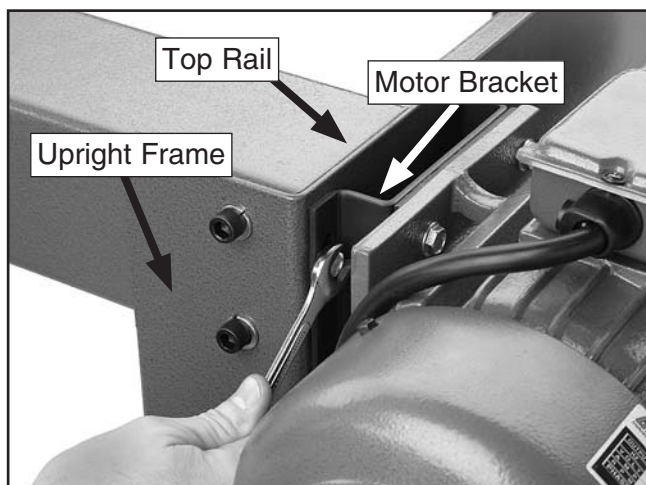

Figure 15. Motor bolt.
6. Insert the $\frac{5}{16}$ "-18 x $\frac{3}{4}$ " flange bolt through the motor bracket, upright frame, and into the top rail, as shown in **Figure 15**. Do not yet fully tighten the flange bolt.